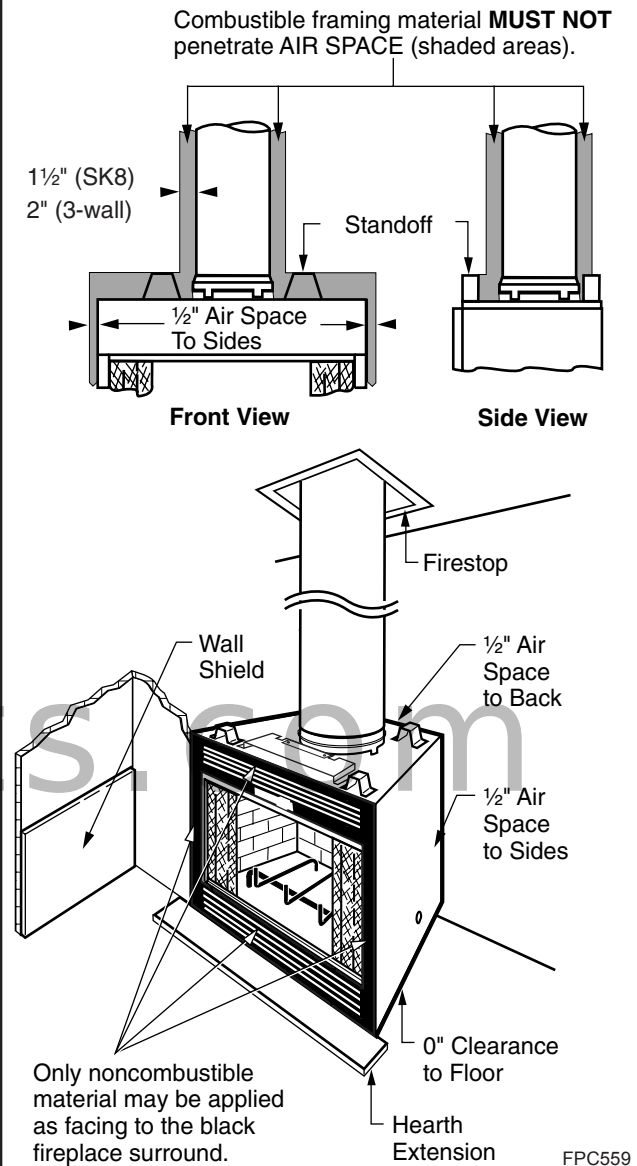

Fig. 21 Minimum clearances to combustibles.
**CAUTION:** All joints between the finished wall and the fireplace surround (top/sides) must be sealed with noncombustible material to prevent cold air leakage into the room. Only noncombustible material may be applied to the facing of the fireplace surround. (Black painted area) (Fig. 21)